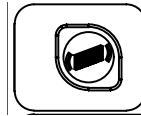

fig. 14
- using the manual cleaning system; press the filter shaker button (fig. 14) and hold it down for a few seconds. Repeat this operation 4 or 5 times while using the machine.